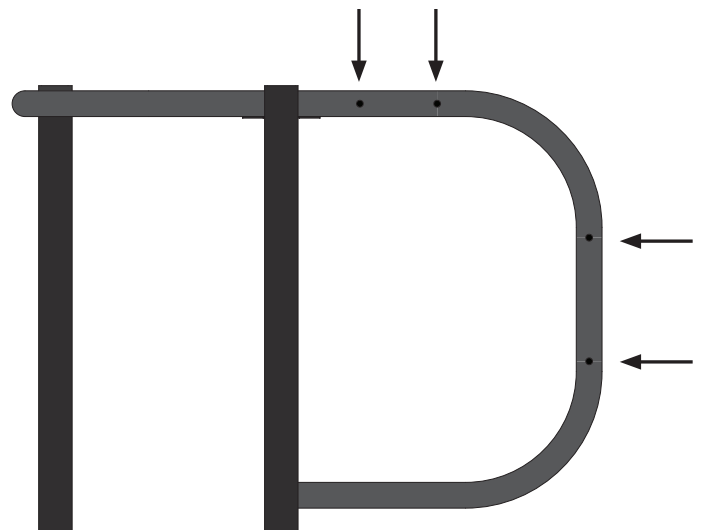

FIG. 2
- 2 Remove the eight plastic caps from both sides of the CC500's handle assembly [FIG. 2].